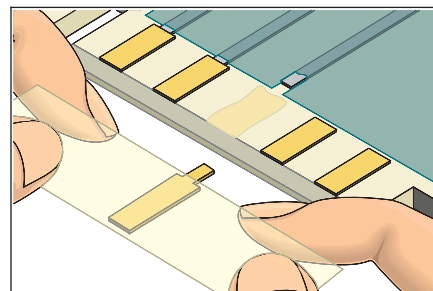

Figure 4 Place the new edge contact in place using tape.
11. Place a piece of tape over the top surface of the new edge contact. Position the new edge contact on the printed circuit board surface using the tape to aid in alignment. (See Figure 4.)